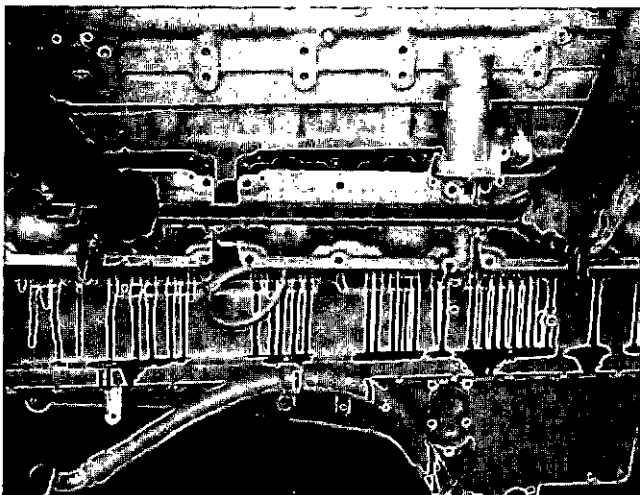

Fig. 0-45. Remove The Cam Follower Assembly.
4. Remove the cam follower housing assembly, Fig. 0-45.